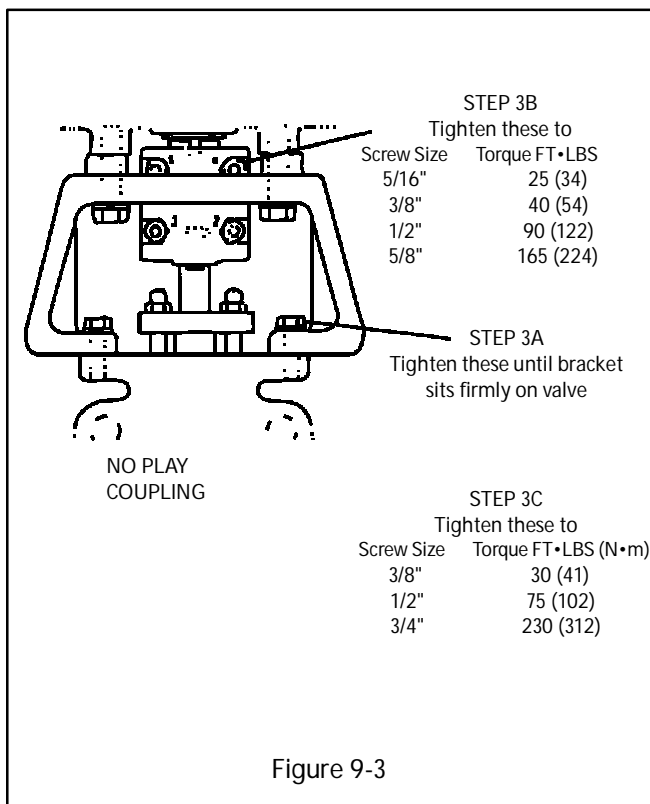

Figure 9-3
4. Lower actuator and bracket onto valve while engaging actuator stem driver into coupling. Tighten screws just enough to firmly mate bracket to valve. This should allow bracket to shift, allowing the coupling to align the valve and actuator shafts. (See Figure 9-3, Step 3A.)
5. Tighten the no-play coupling screws to torques shown in (Figure 9-3, Step 3B). Use alternating sequence shown.
7. Fully tighten the screws holding the bracket to the valve, as shown in (Figure 9-3, Step 3C).
8. Recheck no-play coupling screw torques, using the torques in (Figure 9-3, Step 3B). Use alternating sequence shown.